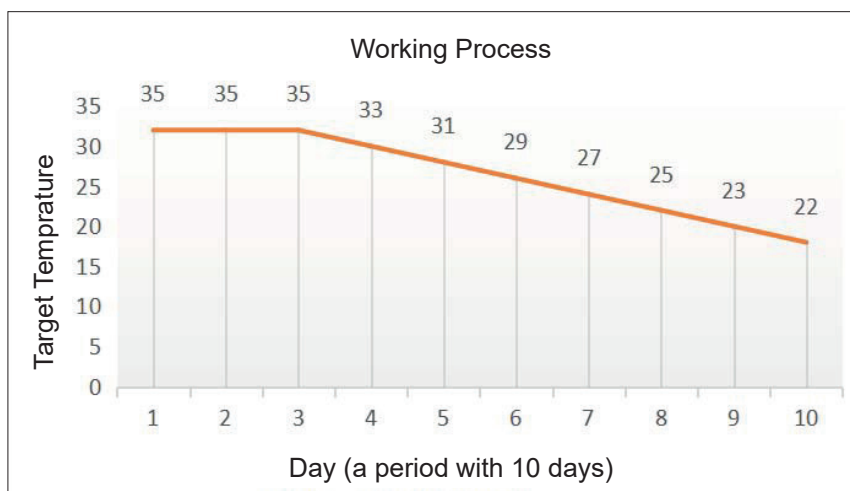

Fig. 3 Fig. 3 Temperature set with schedule
4.2. Power ON: Press the “+” button for three seconds to turn on, and press the “-” button for three seconds to shut down. When the heating loading is turned on, the temperature controller works on the preset temperature curve, which is shown in Fig. 3.
By pressing the “+” and “-” button, the current target temperature can be adjusted, and the aim of adjusting the working time schedule can be achieved by adjusting the target temperature. The relation between the target temperature and the working time progress is shown in figure 3.